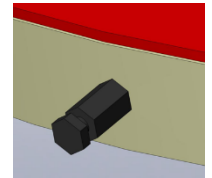

Fig. 2-5
Step 3 - If installing a ramp, place the ramp by locating the ramp shoulder bolt and placing it into the slot in the ramp. It is highly recommended to anchor the ramp to the floor. (See Fig. 2-5)